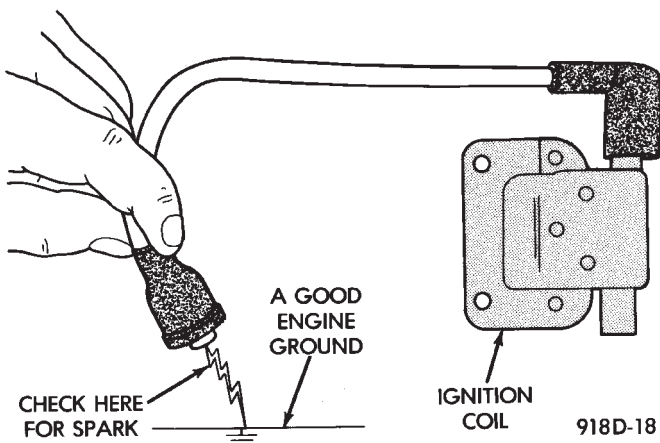

Fig. 16 Checking for Spark—Typical
(1) Disconnect the ignition coil secondary cable from center tower of the distributor cap. Hold the cable terminal approximately 12 mm (1/2 in.) from a good engine ground (Fig. 16).